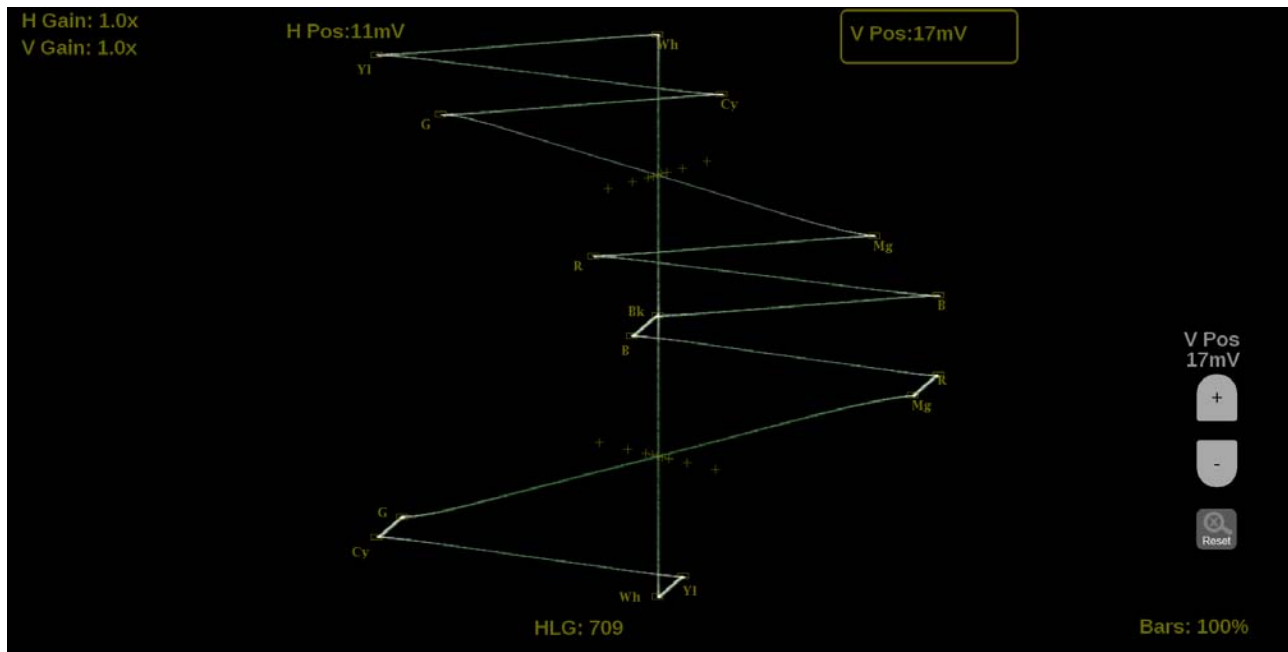

Figure 112: Lightning on-screen tools – vertical position
2. Touch the **V Pos** button to allow adjustment of the vertical trace. (See Figure 112.)